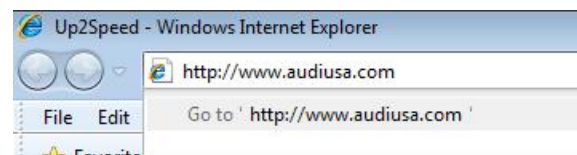

Figure 6. Launching the web link in the browser.
4. Hit the Enter key to launch the web link in the browser (Figure 6). The video file will play. The file will automatically be optimized for the computer's operating system.